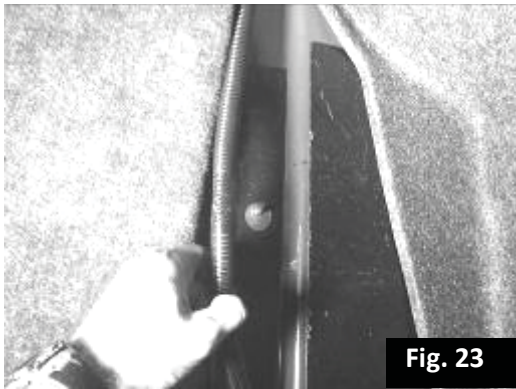

Fig. 23
37. Pull the factory wire harness loose from the metal stud where the subwoofer will mount. Fig. 23